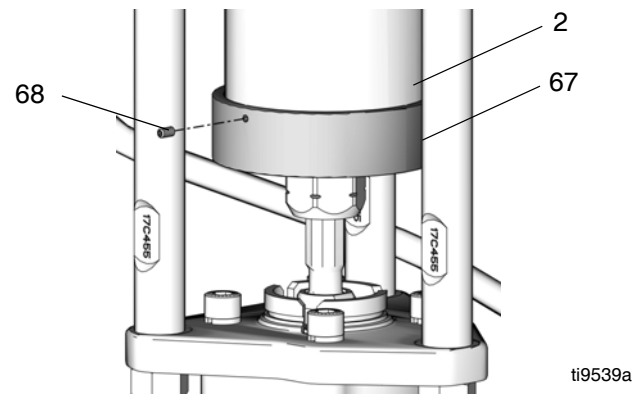

FIG. 10. Install Collector
4. Jog motor to move slider piston (9) to bottom of stroke, allowing reconnection of coupling nut (14).
5. Ensure that the collars (13) are in place in the coupling nut (14).
6. Place a 3/4 in. wrench on the flats of the slider piston (9), to keep it from turning when you are tightening the coupling nut (14). Orient the wrench so it is braced against one of the tie rods (3) or the stand. Tighten the coupling nut (14) onto the slider piston (9) and torque to 75-80 ft-lb (102-108 N•m).
7. See FIG. 10. Push the collector (67) up onto the bottom of the slider cylinder (2) so it seats securely. Install the three setscrews (68) finger-tight.